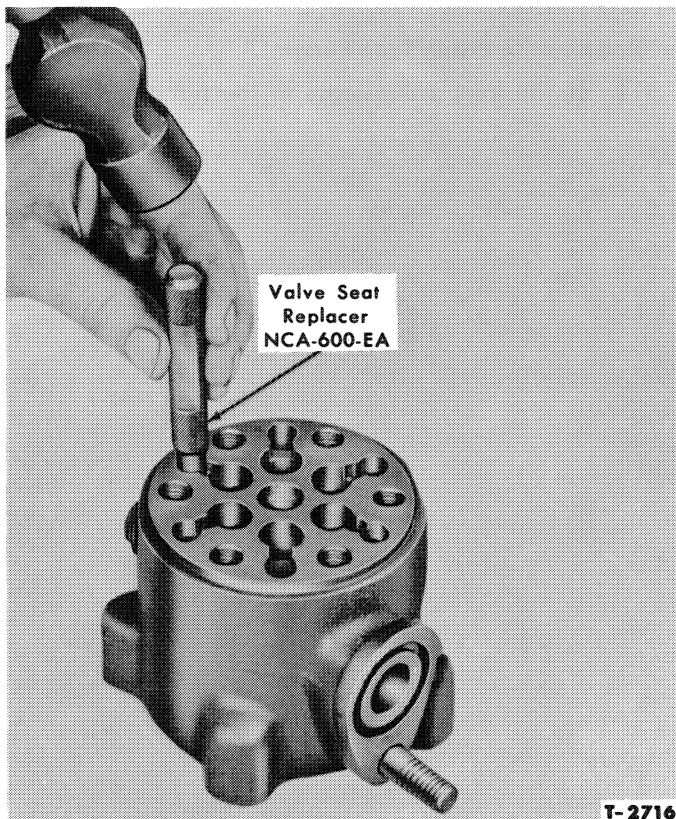

Figure 31—Installing Inlet Valve Seats
removed, install them with Replacer NCA-600-EA, as shown in Figure 31.
5. If the inlet valve seats were removed from the pump body, install them with Replacer NCA-600-EA, as shown in Figure 31.